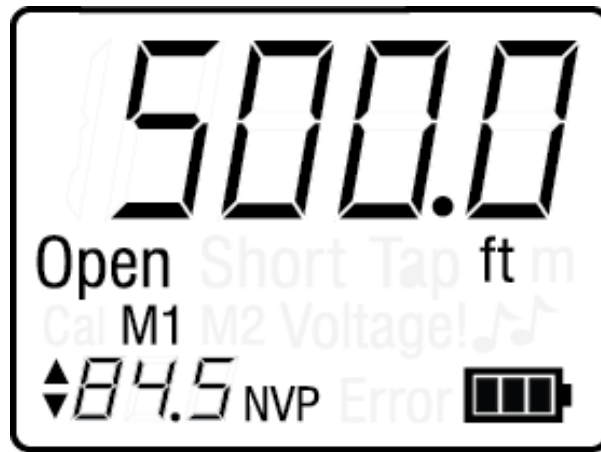

Figure 8. LCD Display Screen in Test Mode
4. Press the TEST button. The LCD display screen shows the following upon entering Test Mode (See Figure 8):